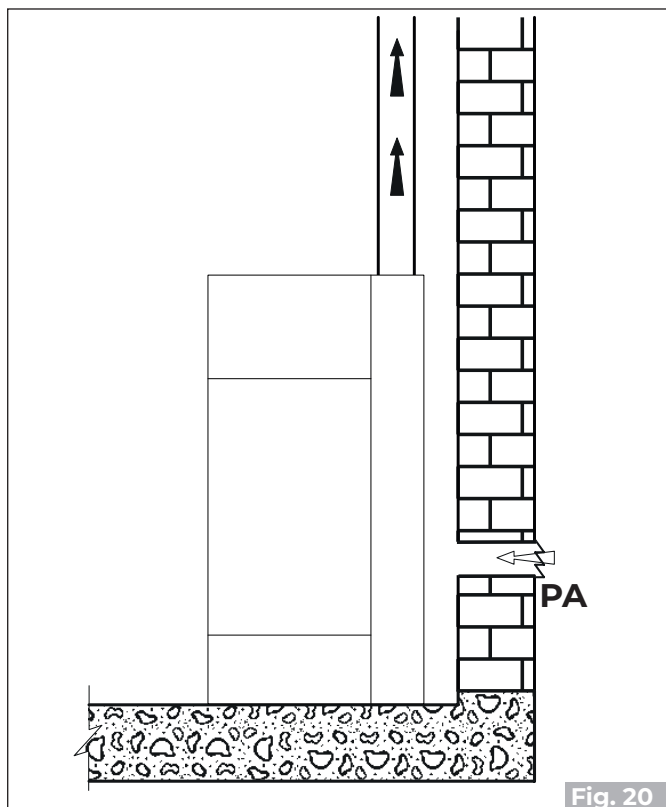
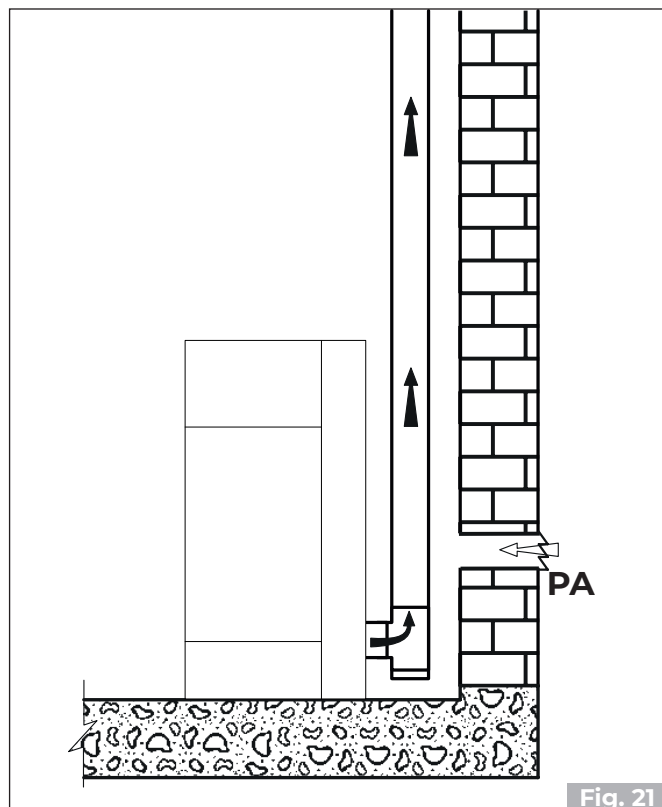

Fig. 20
Fig. 21
- it can come from the installation room or suitable adjacent rooms (**Fig. 20 - Fig. 21**)
Create the air intake on the wall (**Fig. 20 and Fig. 21 - PA = Air Intake**), and leave the appliance to withdraw the room air, making sure to connect the section of corrugated pipe on the air inlet pipe, if supplied, fixing it with the strap and folding it slightly downwards to prevent any resonance effects.